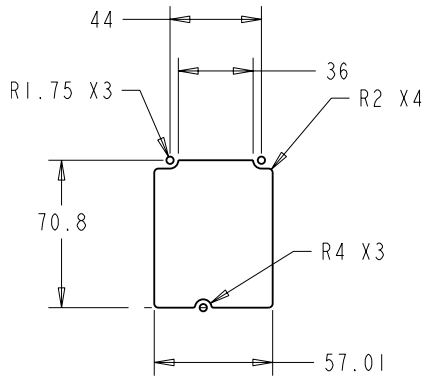

Figure 13. Suggested TFX12V Chassis Cutout
- Chassis cutout (normally in the rear panel of the chassis) as shown in Figure 13.